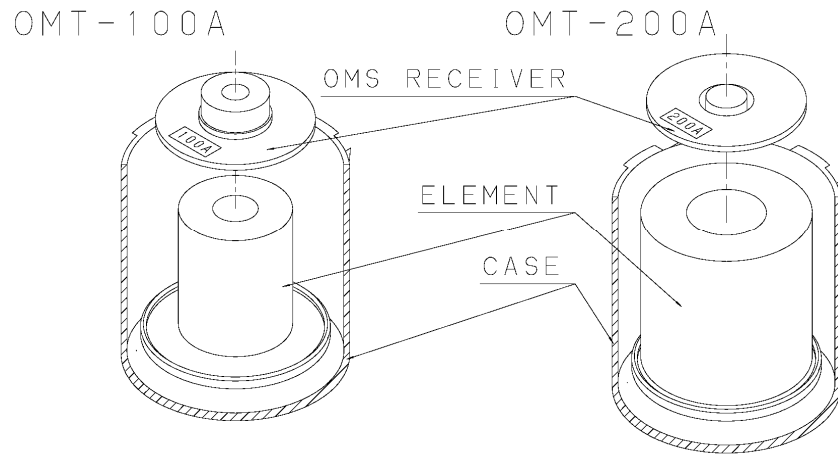

Fig. 5 Mounting the OMS retainer
- (5) Mount the OMS retainer on the element with the surface on which the model no of the oil mist trap is inscribed facing upward, as shown in Fig. 5.